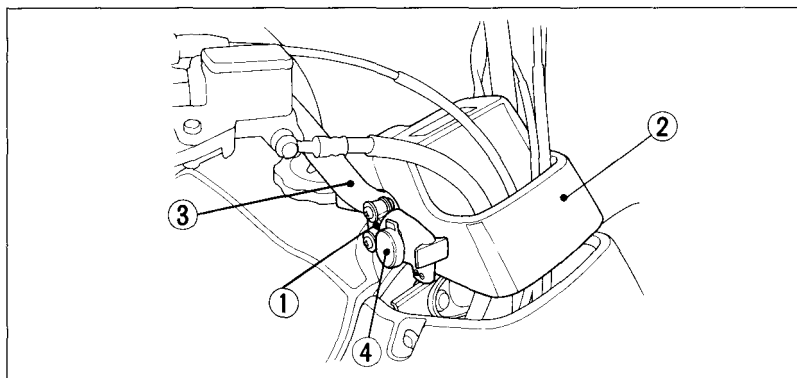

Fig. 2-24
The DC receptacle (1) (Fig. 2-24) is attached to the right handlebar, near the handlebar cover (2). The receptacle provides 12 V DC power at a maximum of 180 watts (15 amps). If you exceed this limit, you may blow the fuse. (For information on fuses, and how to replace a fuse, see pages 115—116.)
(1) 12 V DC receptacle
(2) Handlebar cover
(3) Right handlebar
(4) Special DC plug
Electrical accessories may be connected to the receptacle by using the special DC plug (4) (Fig. 2-24) that comes attached to the receptacle. Be sure to use only accessories that are designed for 12 V DC power.
1. Remove the plug (4) from the receptacle (1) (Fig. 2-24).